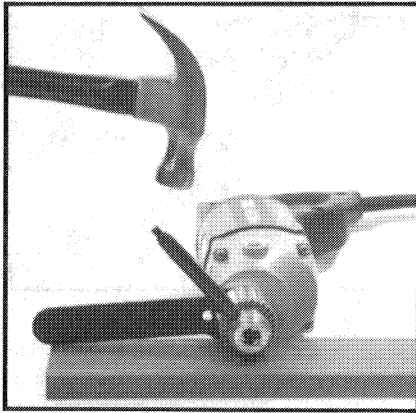

Fig. 1
4. Support chuck on a solid surface with the key (or chuck removal tool), in the position shown in Fig. 1. Make sure the chuck lays flat on the support to avoid damage to the spindle and/or spindle bearings.
**NOTE: MODEL 7554 TYPES 3, 4 and 5** – Place spindle wrench (furnished with 5079) onto flats of spindle shaft and position as shown in Fig. 1.